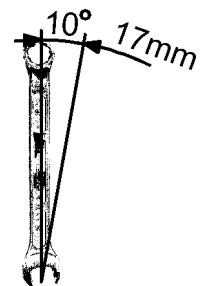

FIGURE 2
12. If the set is not correctly cut on one of the ends, loosen the five mounting screws (11) on that end and keep the one mounting screw tightened at the good end.
Turn the adjustment screw (10) on the bad end $1/36$ revolution or 10° . See figure 2.
15. If the set is not correctly cut in the middle, loosen the four mounting screws (11) in the middle and keep the mounting screws tightened at the ends.
Turn the adjustment screw (10) in the middle 1/36 revolution or 10°. See figure 2.